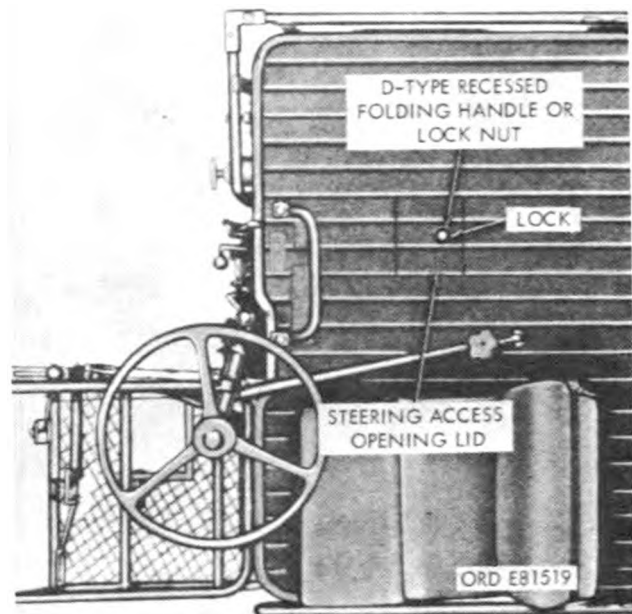

Figure 2-25. Location of two- or four-wheel steering access lid.
a. Steering Access Opening Lid. To gain access to steering connections, remove steering access opening lid by turning D-type recessed folding handle (fig. 2-25) or, if applicable, by turning locknut using wheel nut wrench (fig. 1-5 or 3-1) and remove lid.
- (1) To change from two- to four-wheel steering, turn steering wheel in direction necessary to place front wheels in a straightahead position. Pull out quick-release pin securing front end of steering connection rod to anchor.